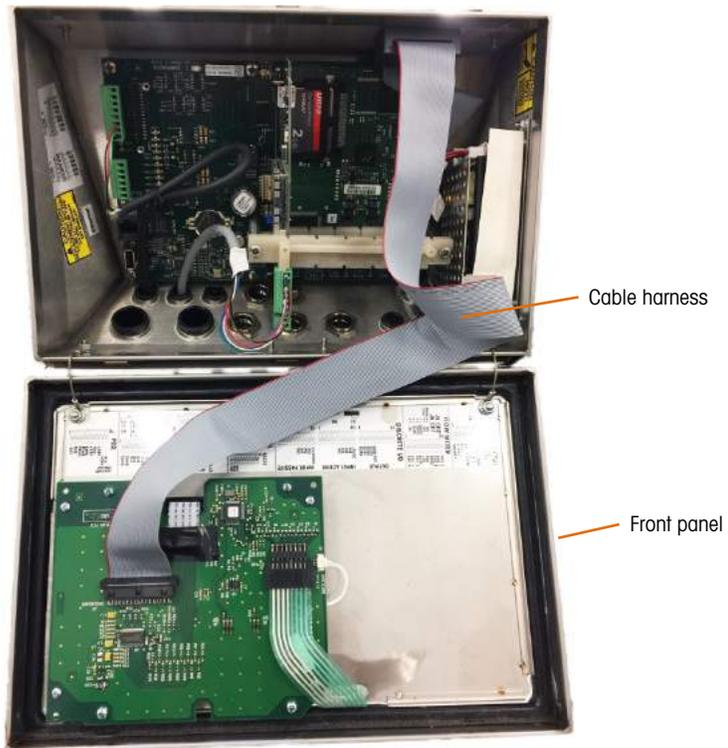

Figure A-11: Front Panel Reversed, Longer Cable Harness Installed
5. Connect the replacement cable harness (64087303) as shown in Figure A-11.